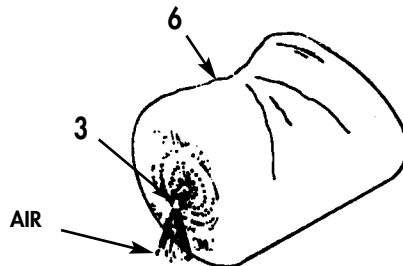

Figure 3. Drum Collapse.
- d. Fully collapse drum (Figure 3, Item 6). Push down on drum (Figure 3, Item 6) to squeeze air out. Trapped air will rush out of the coupler valve (Figure 3, Item 3).